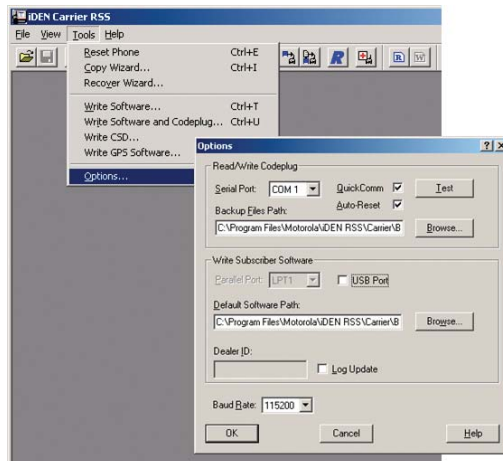

Figure 6-2. Options Dialog Box
- If using RS-232 Data Cable: For better performance, select “QuickComm” in the RSS Options dialog box (see Figure 6-2).
- USB Cable: Check "USB Port" under "Write Subscriber Software" in the RSS Options dialog box (see Figure 6-2).